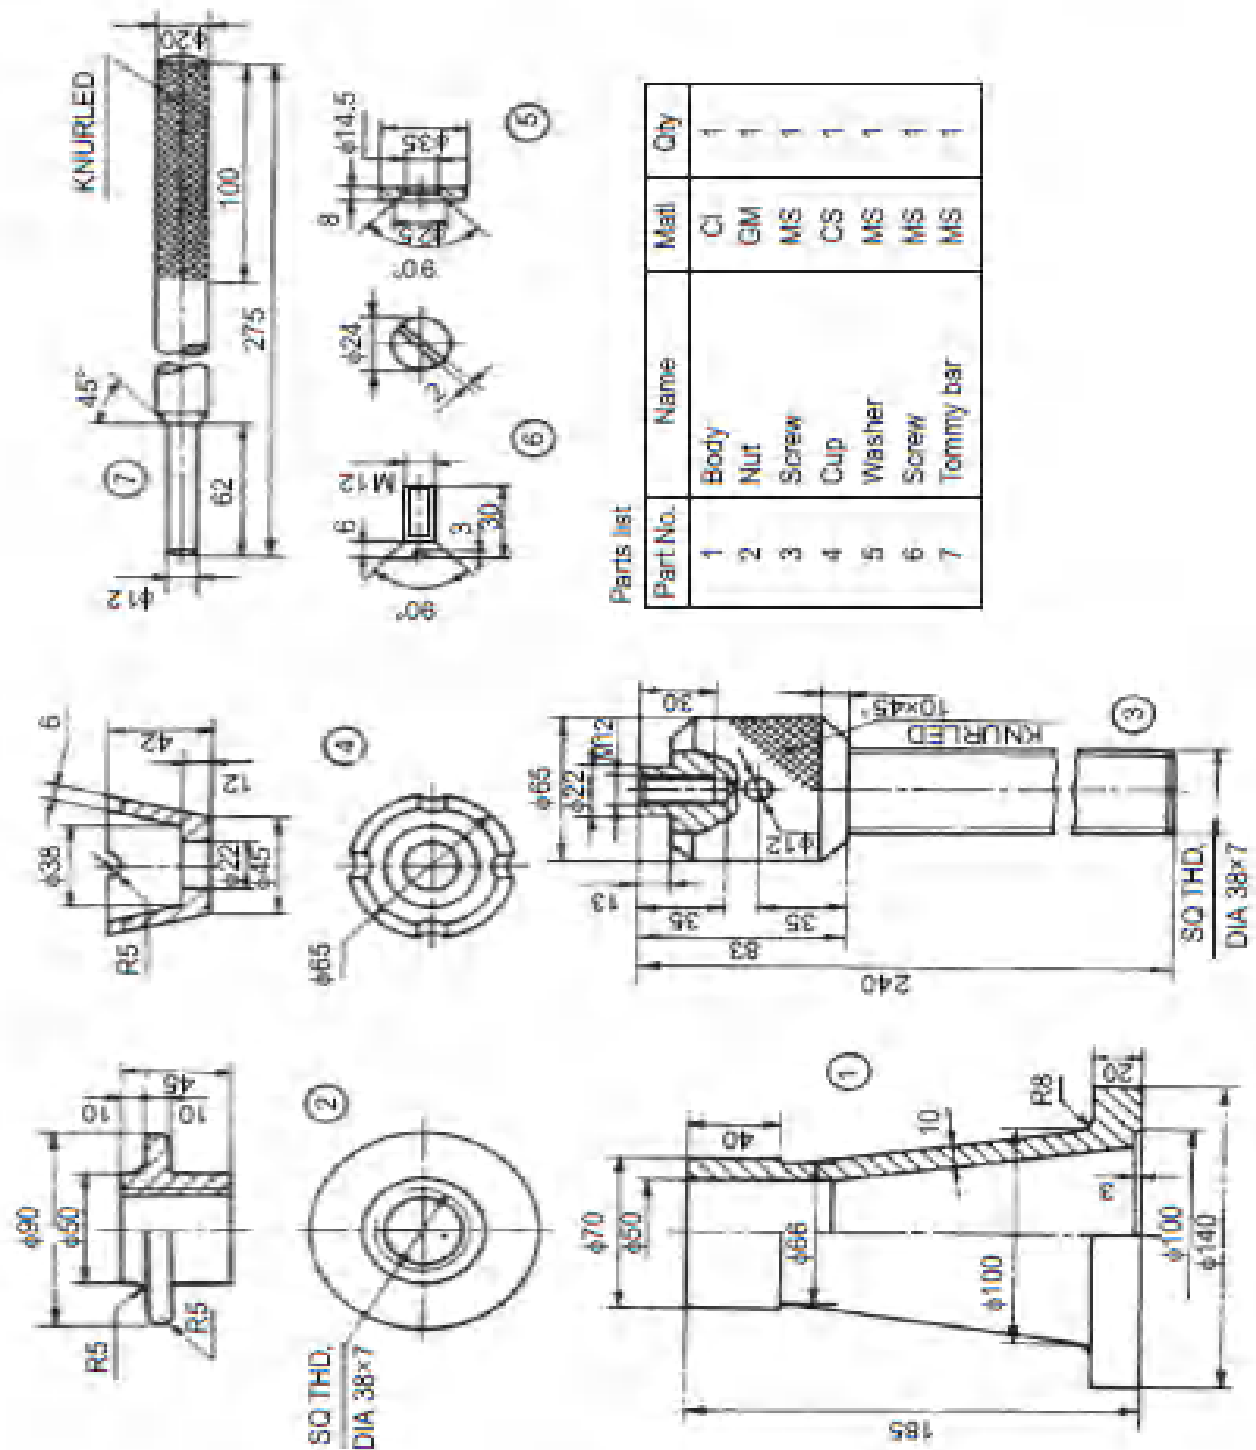

Fig. 1 Screw Jack
4. Assemble all the parts of SCREW JACK as shown in Fig.1 and draw the following assembled views: **[1x40=40M]**